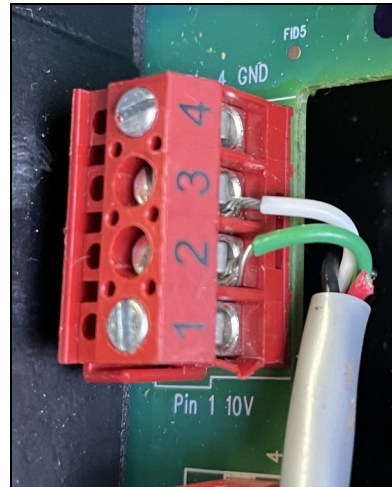

Figure 7 - Wires from Circulation Pump to Heat Pump
4. Connect wire to run to the heat pump from connection points "2" and "3". The first (power) wire and fourth (ground) wire will not be used. See Figure 7.